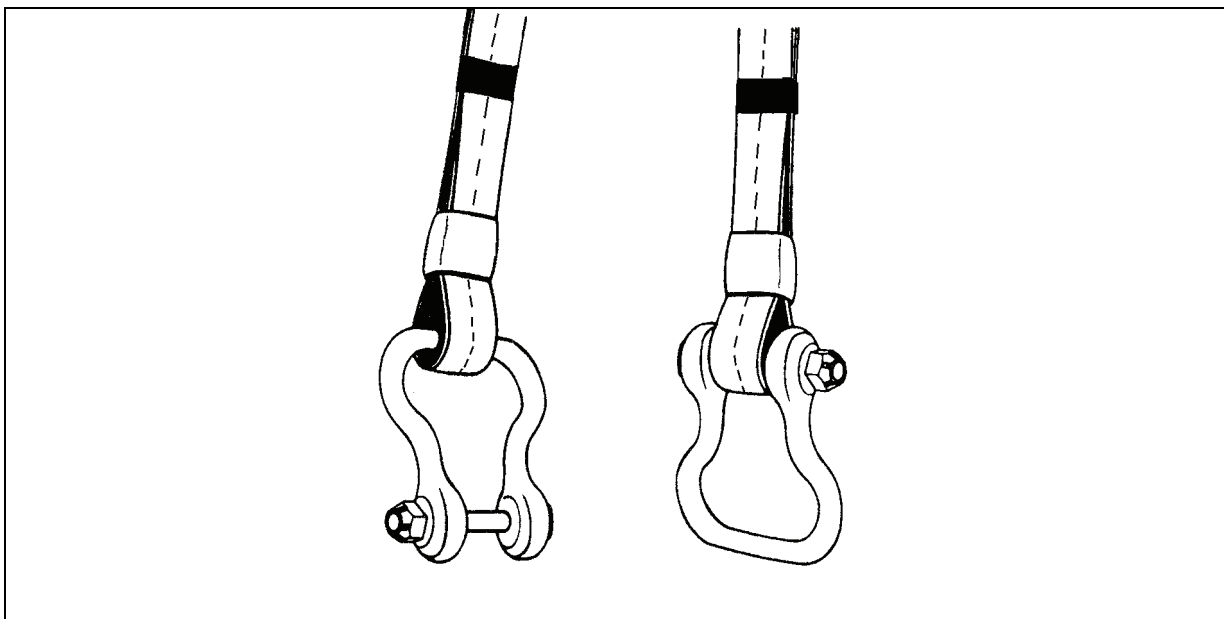

Figure 6-36. Vertical Hitch Attachment (Sling-to-Clevis)
- The most common form of load attachment is the vertical hitch (sling-to-clevis) attachment shown in Figure 6-36. This method is preferred because it is the quickest and easiest to remove.